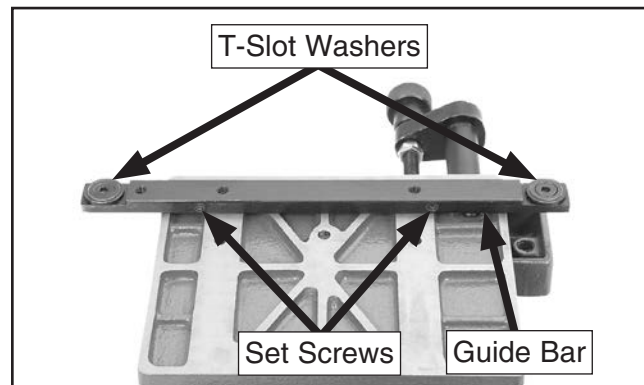

Figure 15. Guide bar adjustment components.
3. Remove tenoning jig from table saw and turn it upside down, as shown in **Figure 15**.
4. Evenly adjust set screws shown in **Figure 15** the same amount so that they protrude from guide bar enough to take up side-to-side play described in **Step 2**.
5. Make sure (2) pre-installed 1/4-20 x 3/8" flat head cap screws that secure T-slot washers (see **Figure 15**) are tight.